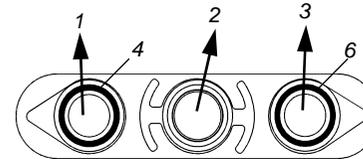

Fig. 3.1.1
- The indicator light from the grid ("6" Figure 3.1.1) must be lit;
- Press the button ("1" Figure 3.1.1), checking the direction of rotation of the utensils (in 380 three-phase version).